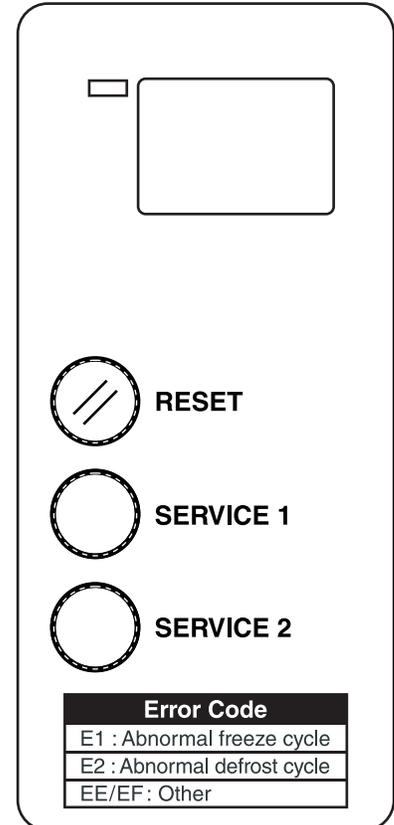

Fig. 7
- 7) Press the "RESET" button. See Fig. 7. The water tank will start to open.